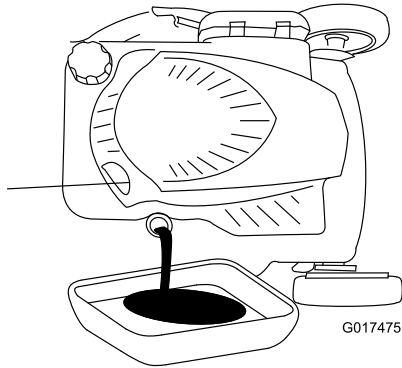

Figure 37
3. Tip the machine onto its side, with the dipstick down, to drain the used oil out through the oil-fill tube (Figure 37).